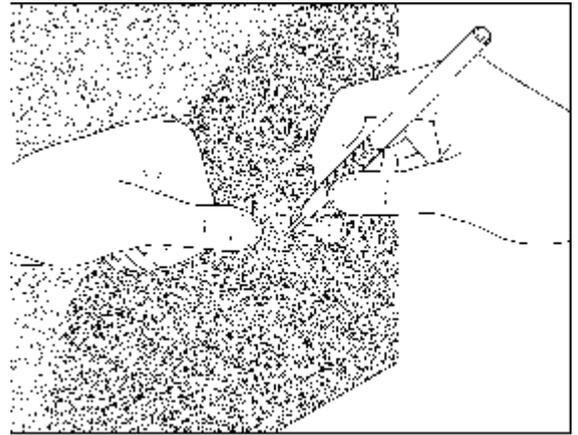

Figure 5. Removing Bubbles from the Film
- b. Use your thumb to push the trapped air or wetting solution toward the puncture. See Figure 5.